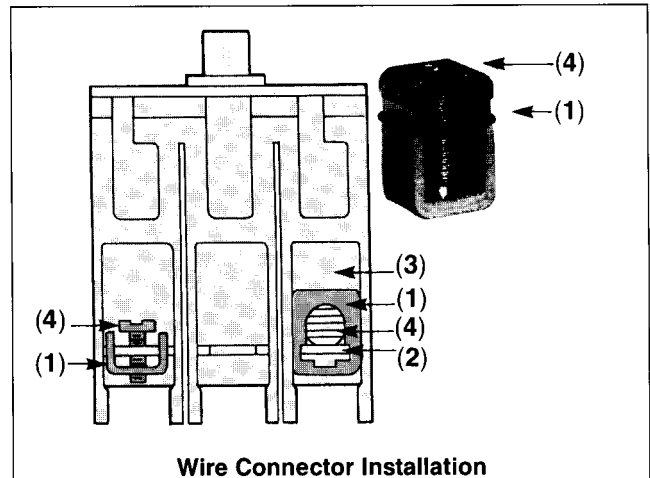

Figure 1
- Place terminal connector body (1) onto breaker tab (2) in terminal cavity (3) (Figure 1).
- Hold in place while tightening set screw (4) with a screwdriver or hex wrench on TA1E6125. See Table for proper wire size selection and screw tightening torque.